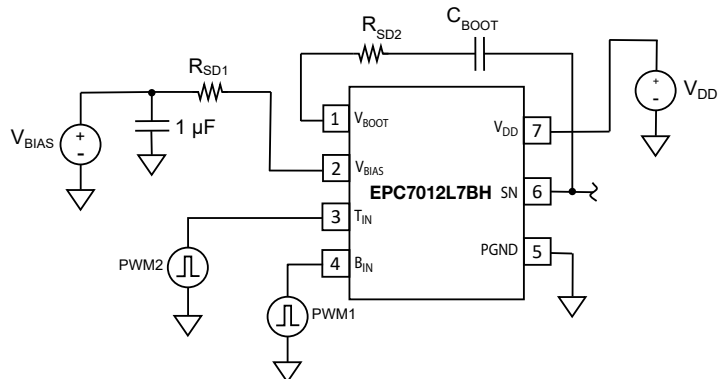

Figure 3. External Slow-Down Resistor Connections
The EPC7012L7BH is designed to be a high-speed power driver. As such it has extremely fast switching node (SN) rise and fall times by design. Fast rise and fall times can and will result in unwanted voltage spikes at the V_{DD} and PGND pins due to any parasitic layout inductance ($V_{SPIKE} = L_{Par} \cdot di / dt$). If as a result of the optimized PCB layout that these spikes cannot be reduced to an acceptable level, it is recommended that two resistors be added to the circuit to decrease the slew rates of the low- and high side gate drive signals, which in turn decreases the slew rates of the switching node rise and fall times. These resistors, R_{SD1} and R_{SD2} are shown in Figure 3.